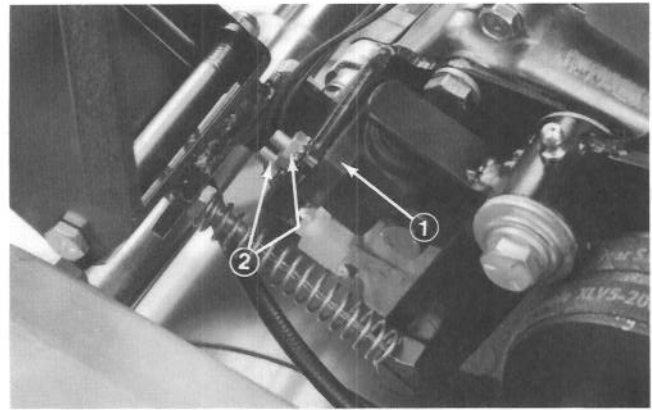

Figure 45
2. Loosen (2) switch mounting nuts (Fig. 45) and move switch up until switch contacts are closed. Check continuity with a meter.